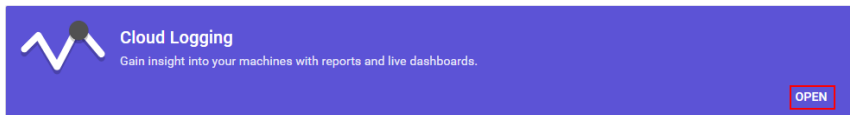

Figure 5.77 After activation the Cloud Logging interface is available.
1. After activation open the Cloud Logging (Figure 5.77).